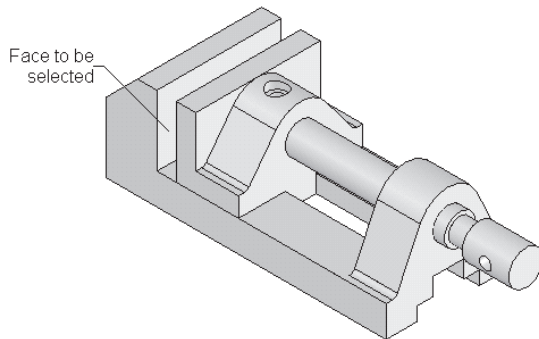

Figure 12-67 Face to be selected
- f. After analyzing the assembly, apply the required mates to constrain all degrees of freedom, refer to Figures 12-67 and 12-68.
12. Select the two faces, one of the Vice Body and the other of the Jaw Screw, as shown in Figures 12-67 and 12-68.